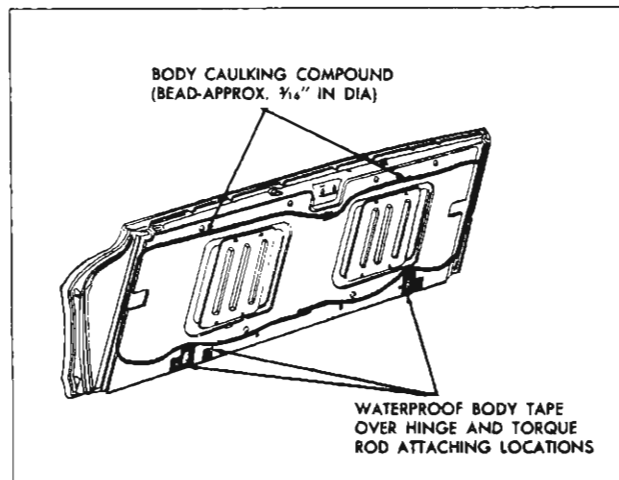

Fig. 98—Tail Gate Inner Panel Sealing
3. Apply a bead of body caulking compound (approximately $\frac{3}{16}$ " diameter) to tail gate inner panel (fig. 98).